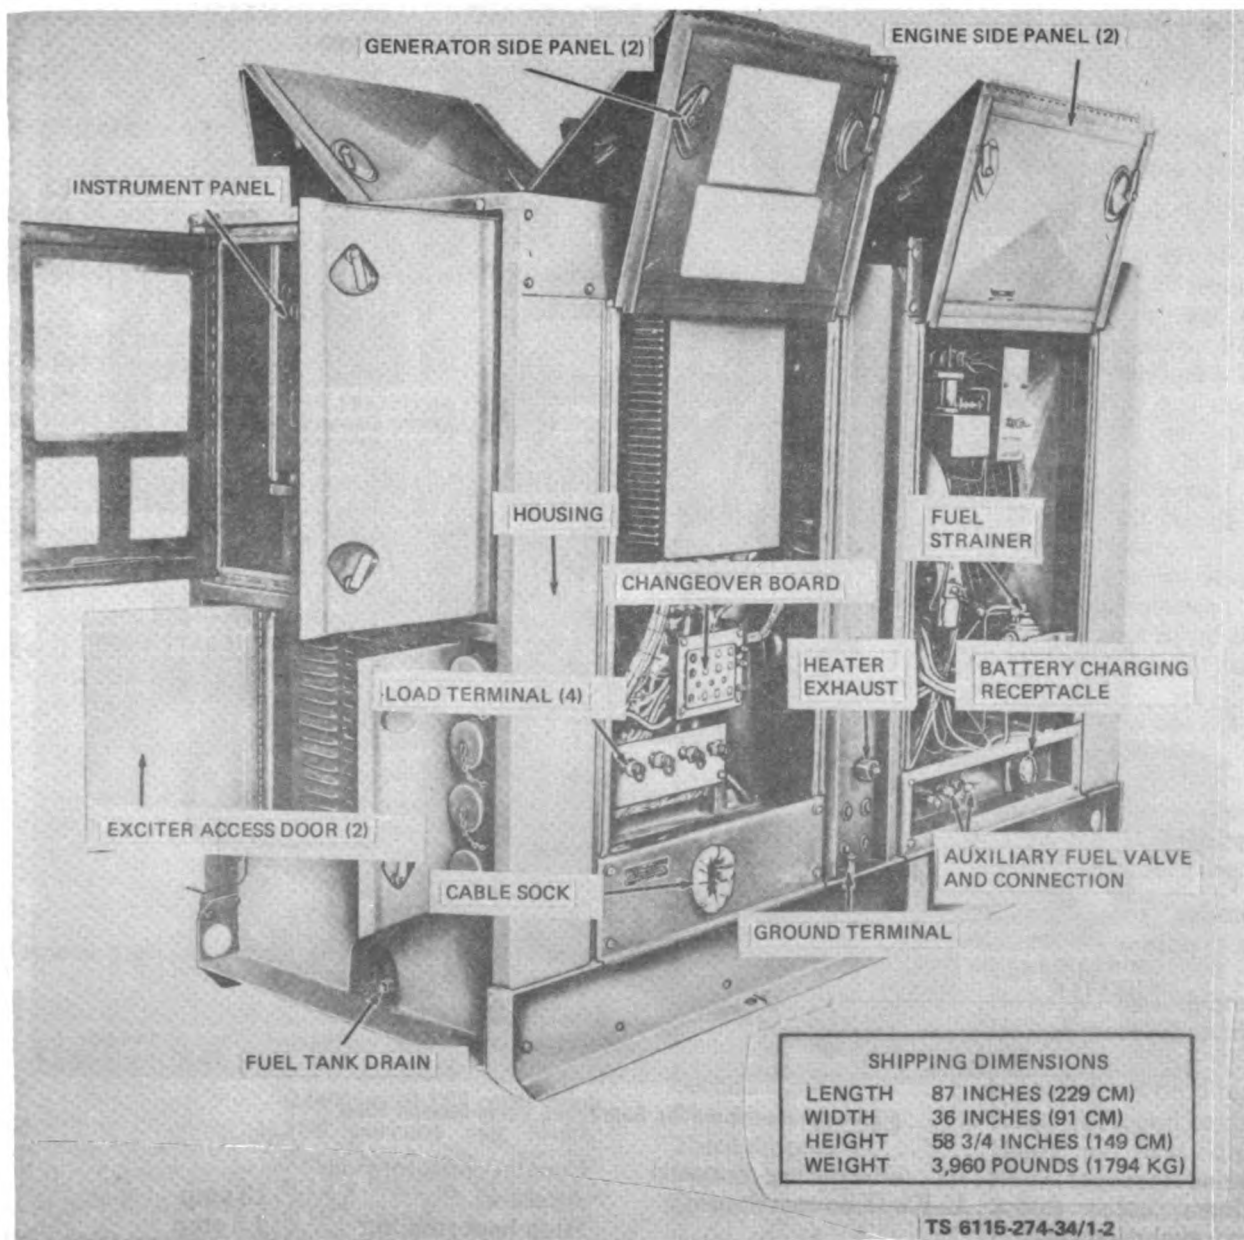

Figure 1-2. Generator Set, Right Rear, Three-Quarter View
a. General. The Stewart and Stevenson Services, Inc. Generator Set, Model 52300 (figs. 1-2 and 1-3) is a self-contained, skid-mounted, enclosed unit and is completely winterized. The generator set is equipped with the necessary controls, instruments, and accessories for independent operation.